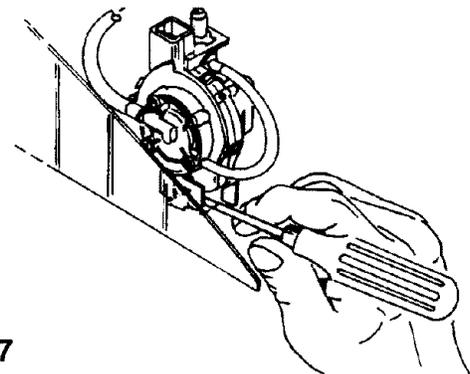

Fig. 17
3. Release snap and lift pump out. (Fig. 17)